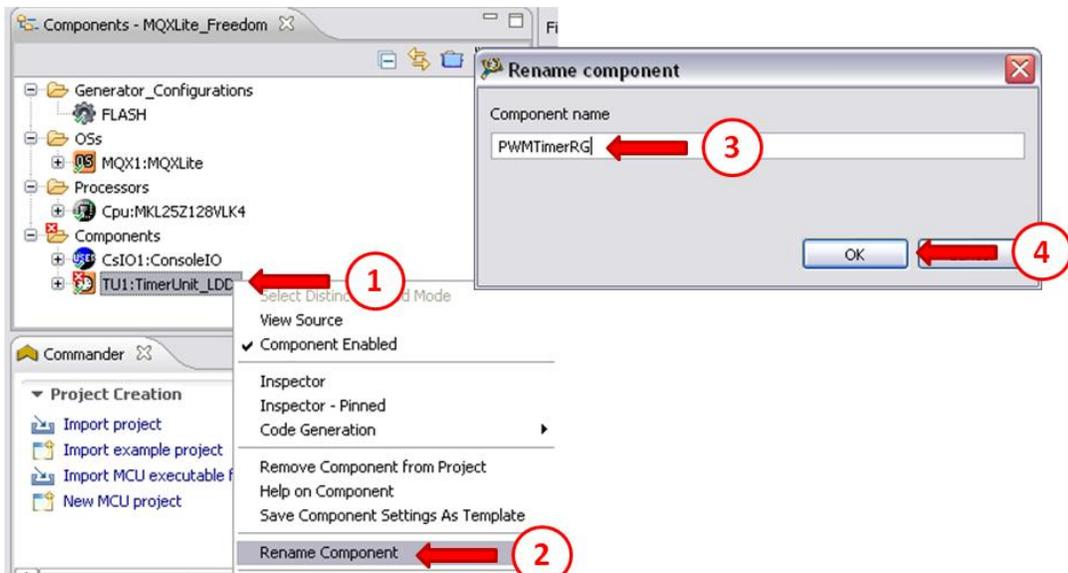

Figure 25. Modify component name.
3. It is necessary to change the name to standardize the source code. To modify the name of the component give a right click on it and then give the "PWMTimerRG" name. This name means that this PWM controls the Red and Green LED inside the RGB LED. Figure 25 shows the details.